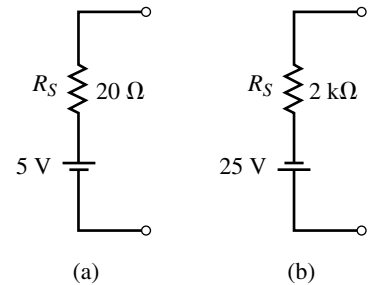

FIGURE 8–70
11. Refer to the circuit of Figure 8–72: